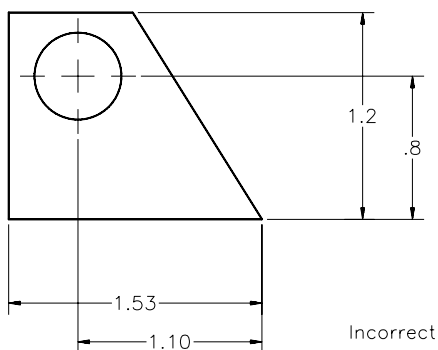
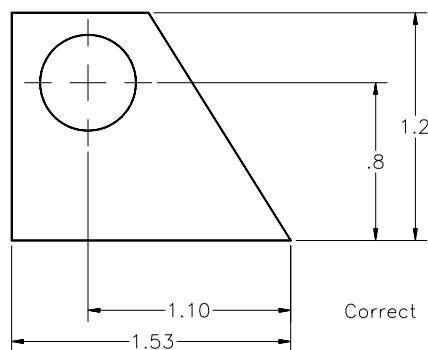

Figure 22-28 Dimension lines crossing each other
Figure 22-29 Dimensions placed correctly
6. Dimension lines should not cross the extension lines (Figure 22-28). You can accomplish this by giving the smallest dimension first and then the next largest dimension (Figure 22-29).